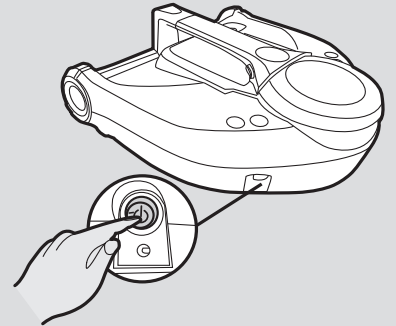

Fig. 8
1. Press the ON/OFF power button on the side of the robot. **[Fig. 8]**
6. Press the ON/OFF power button on the side of the robot. **[Fig. 8]**